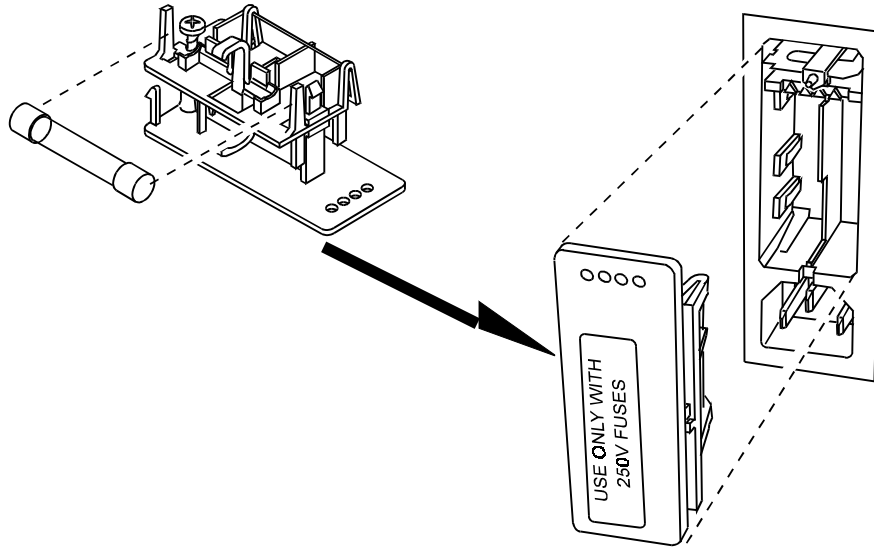

Figure 2-2. Fuse Location
6. After setting the voltage range, install the fuse. See Figure 2-2 for the location of the fuse block. Slide the fuse into the fuse holder.
Ground circuit continuity is vital for safe operation of equipment. Never operate equipment with grounding conductor disconnected. Do not remove or alter the ground pin on a three-prong line cord. The line cord should have the electrical rating and plug appropriate for your location. See Figure 2-2 for the correct cord.